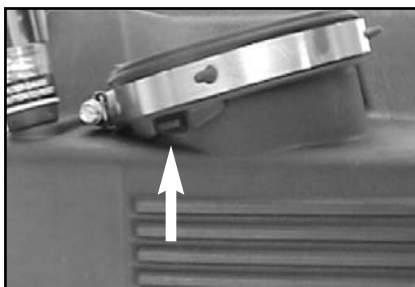

Fig. 1
1. **For gas engines engines:** Loosen the hose clamp that secures the Mass Air Sensor to the airbox lid and carefully remove the Mass Air Sensor from the airbox lid. If the rubber connector that secures the Mass Air Sensor to the airbox lid comes off with the Mass Air Sensor remove it and place it onto the airbox lid making sure to align the groove on the connector with the tab on the lid. Do not tighten the hose clamp yet. (See Fig 1)
For turbo Diesel engines: Loosen the hose clamp that secures the intake tube to the airbox lid and remove the intake tube from the airbox lid. If the rubber connector that secures the intake tube to the airbox lid comes off with the intake tube remove it and place it onto the airbox lid making sure to align the groove on the rubber connector with the tab on the airbox lid. Do not tighten the hose clamp yet. (See Fig 1)